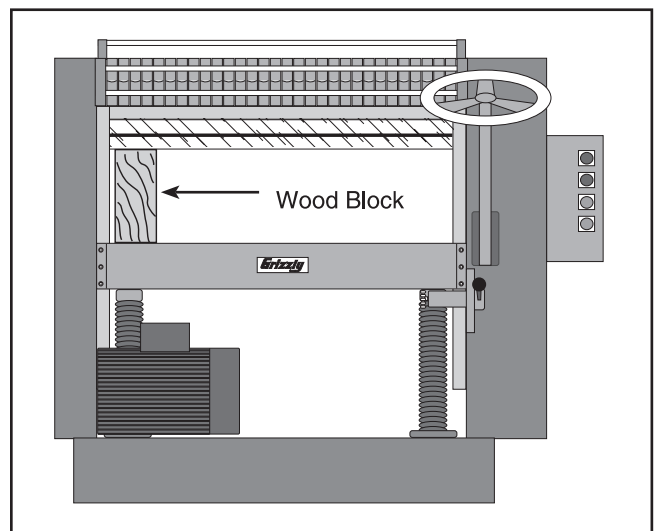

Figure 11. Using a wood block to determine if table is parallel with cutterhead body.
2. Place the block of wood on the table, underneath the cutterhead. Position the block on the left side of the cutterhead as illustrated in **Figure 11**.
7. Pull the rubber sleeve down to expose the adjustment collar shown in **Figure 11**. Turning this collar counter-clockwise will lower the left side of the table; turning this collar clockwise will raise the left side of the table.